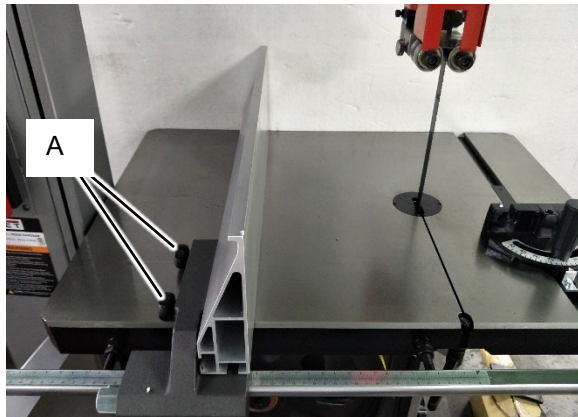
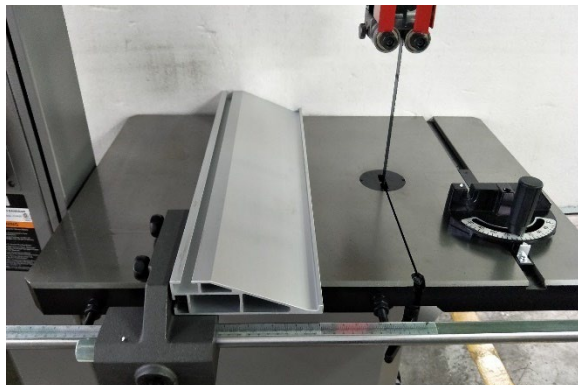

Figure 7-1: vertical position
Figure 7-2: horizontal position
Refer to Figures 7-1 and 7-2.
Loosen knobs (A) until lock bar protrudes enough on which to slide the aluminum fence plate from one end, as shown in Figure 7-1. Retighten knobs.
The aluminum fence plate can be installed in one of two positions; vertically (resaw position), as shown in Figure 7-1; or horizontally as shown in Figure 7-2.